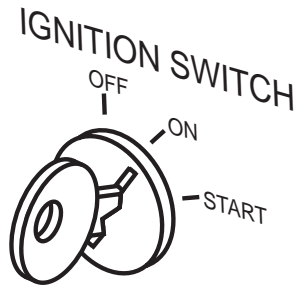

Figure 37. Ignition Key (On)
7. Close hood and place ignition key in the ON position. See Figure 37.